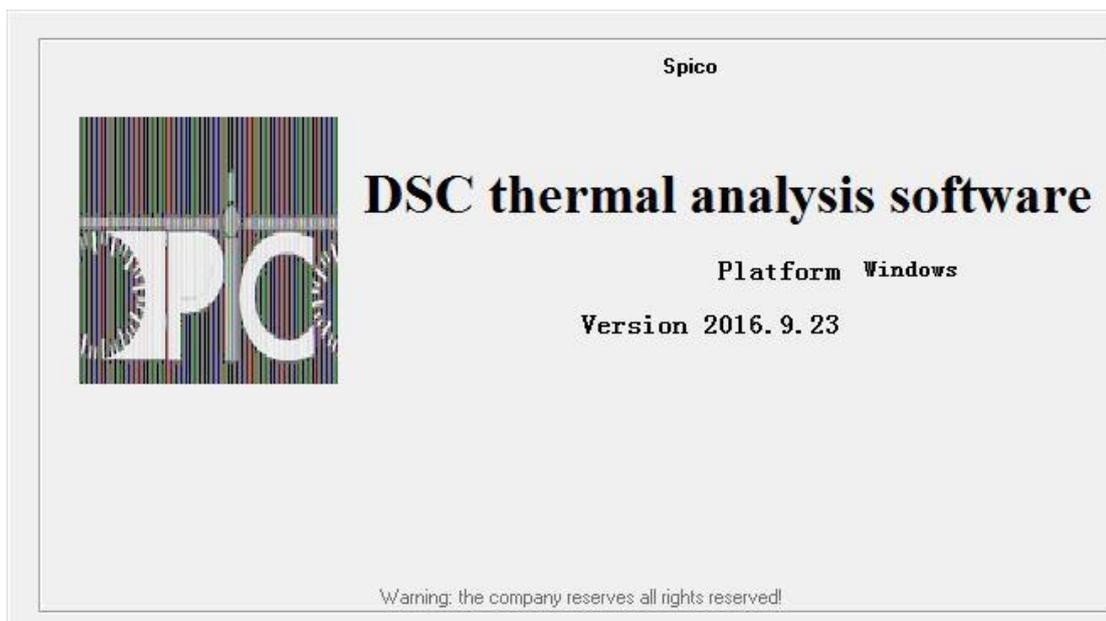

图 1-1
1. Click on the software icon into the startup interface (As shown in Figure 1-1)